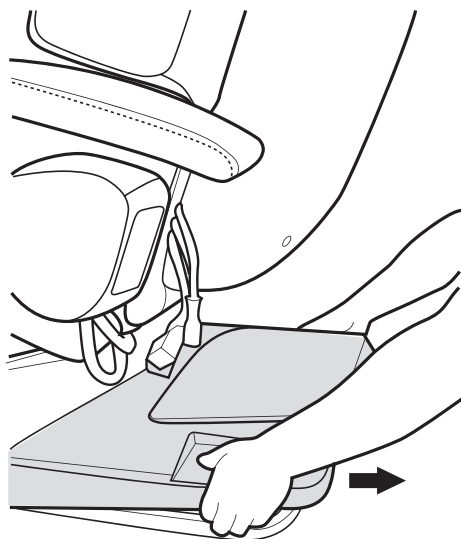

Fig.1
1. Standing behind the chair, grasp the shroud on both sides and pull upward just enough to detach it from the chair base (Fig.1).